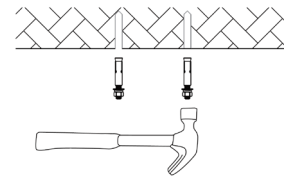

Fig. 4
2. Use a hammer to put the sleeve anchor into the hole. (Fig. 4)
2. Affix the Reflector with the 4 screws provided with the Reflector. (Fig. 4)